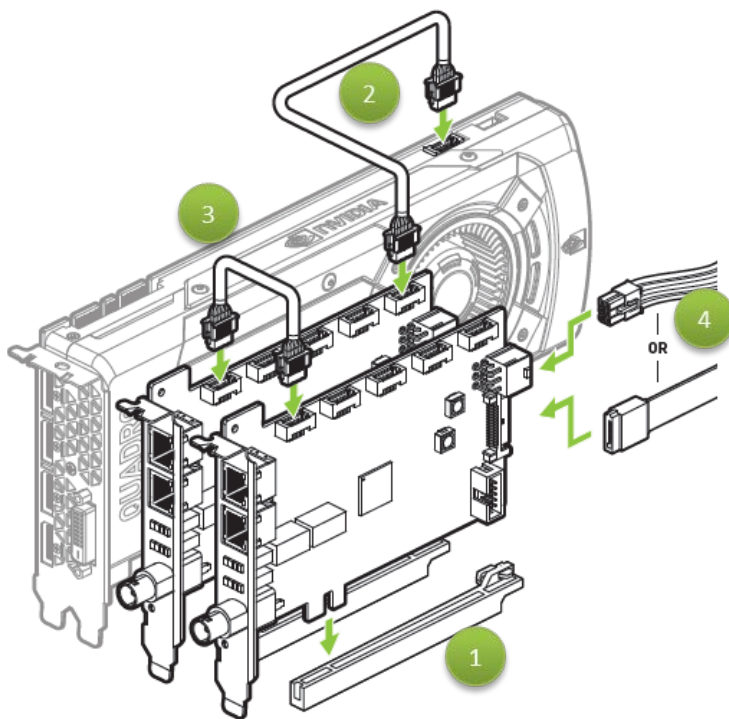

Figure 2. Installing and Connecting the Quadro Sync II Card
Use the following steps and Figure 2 to install the Quadro Sync II Card
2. Connect up to four Quadro cards to the Quadro Sync II card GPU connectors (2 in Figure 2) using the included cables.
3. Connect power to the Quadro Sync II card using either a 6-pin PCIe or SATA power cable (4 in Figure 2).
5. Connect up to four Quadro cards to the Quadro Sync II card GPU connectors (2 in Figure 2) using the included cables.
6. Connect power to the second Quadro Sync II card using either a 6-pin PCIe or SATA power cable (4 in Figure 2).
7. Connect one Quadro Sync II card to the other Quadro Sync II card (3 in Figure 2) using the included cables between the Sync II connectors.